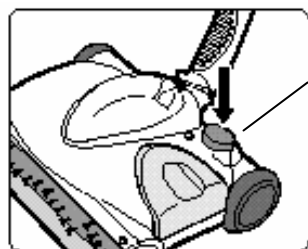

Fig. 4
2. Push the On/Off switch to operate the unit. To turn off, press switch again.(Fig.4)